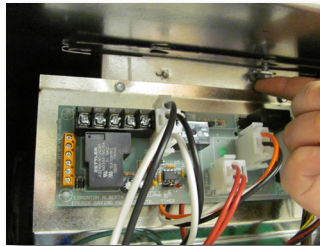

Fig. 3
3. Unbolt the two blower housing bolts from the air handlers center plate, using a 7/16" wrench. (Fig. 3)